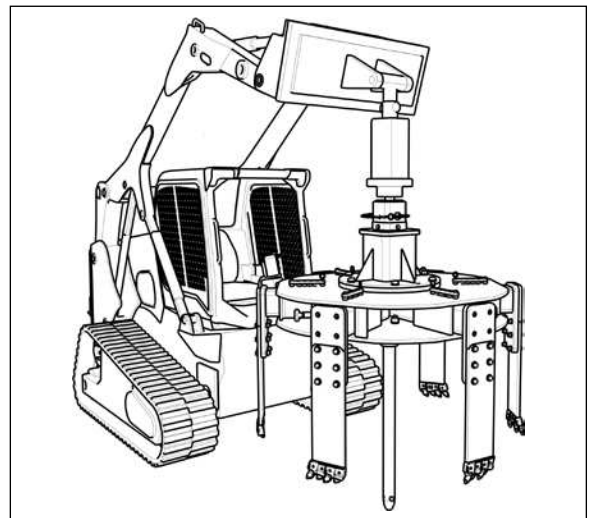

Figure 17. Cutter Attached To Skid Steer
- 18.** Once the Six Shooter is securely attached to the Auger Drive on the skid steer loader, remove the Supporting Legs. [A-MM0118] See Figure 17.